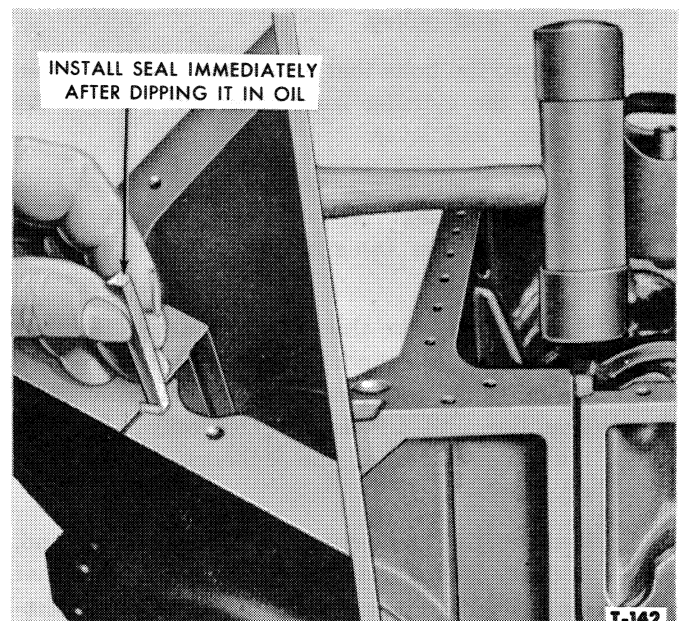

Figure 66—Installing Bearing Cap Vertical Seals
4. Dip each rear main bearing cap vertical seal in engine oil and immediately slide it into place as shown in Figure 66. Tap the seal until it is firmly in place. The ends of the vertical seals should extend approximately $\frac{3}{64}$ " beyond the surface to provide a good seal.